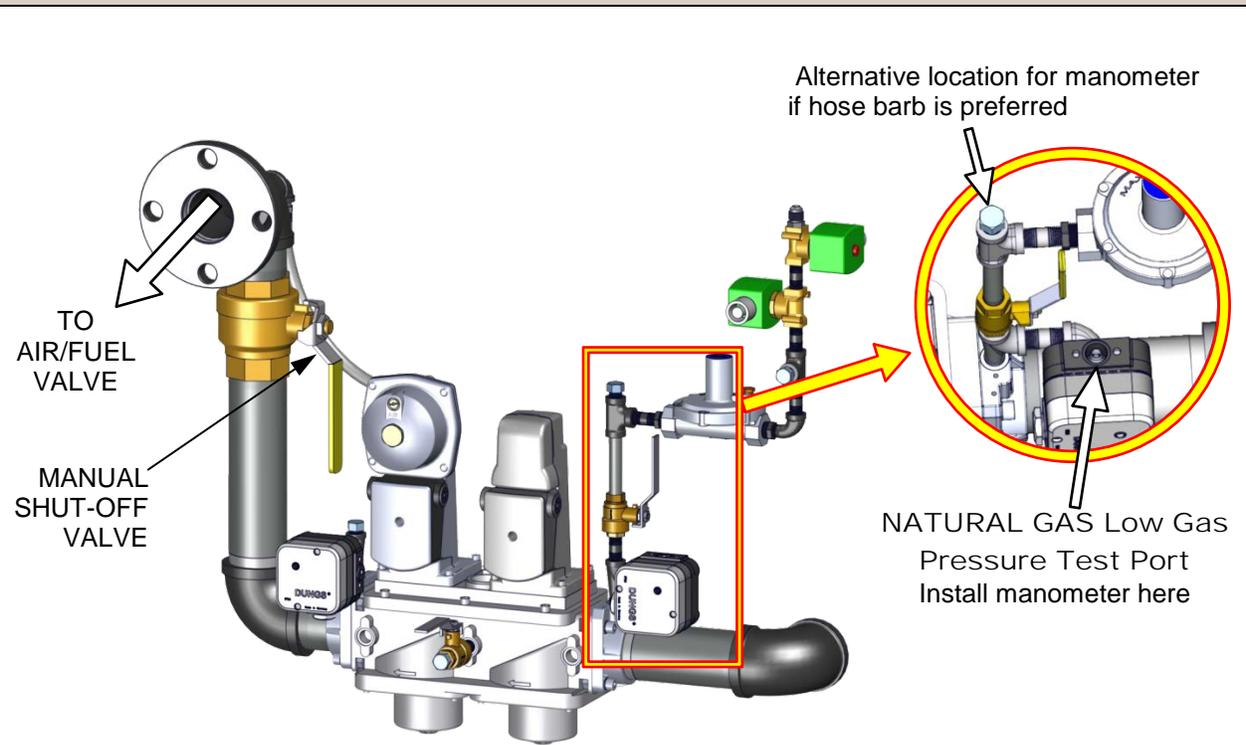

Figure 5-1: Low Gas Pressure Switch Locations & Test Ports
The steps and pressure setting required to check the Low Gas Pressure switch are described below. This switch is in the normally open (N.O.) position. Refer to Figure 5-1 for the location of the switch and where to connect the water column manometer or gauge when performing the test.
3. Locate the port on the top of the **Low Gas Pressure switch** (see Figure 5-1) and loosen the screw inside a few turns to open it. Do not remove this screw completely. Alternatively, you can remove the 1/4 inch plug shown in Figure 5-1 and install a hose barb fitting in that location.